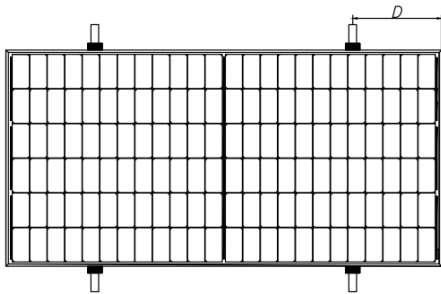
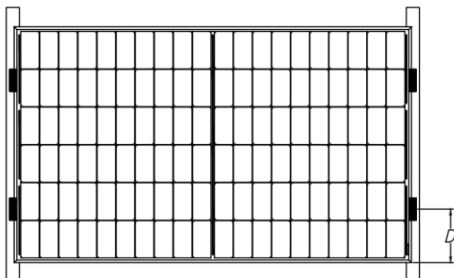
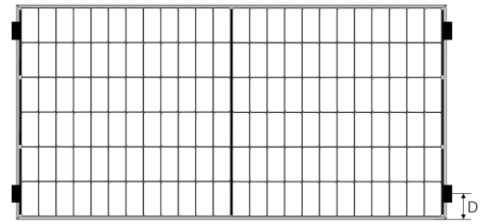
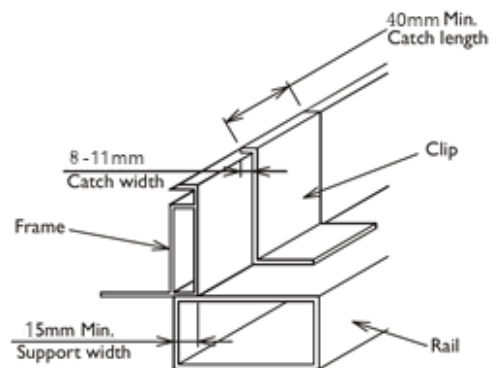

Fig. 11 Rails vertical to the long-side frame
Fig. 12 Rails overlapping the short-side frame
Fig. 13 Four clamp mounting on short side of frame
Fig.17 Mounting requirements for rails overlapping the short-side frame
Photovoltaic modules can be installed across the support frame (Fig. 11) or parallel to the frame of the photovoltaic module (Fig. 12). PV modules can also be installed with four fulcrums (Fig 13). When using clamps to install, each module must be secured with a minimum of 4 clamps.
- ⑧ For the installation method shown in Fig. 12, the module needs to be fixed with professional clamps (as shown in Fig. 17), and the overlap between the C side of the module and the rail should be  $\geq 15$ mm. Astronergy's limited warranty will be void if improper clamps or improper installation is used.